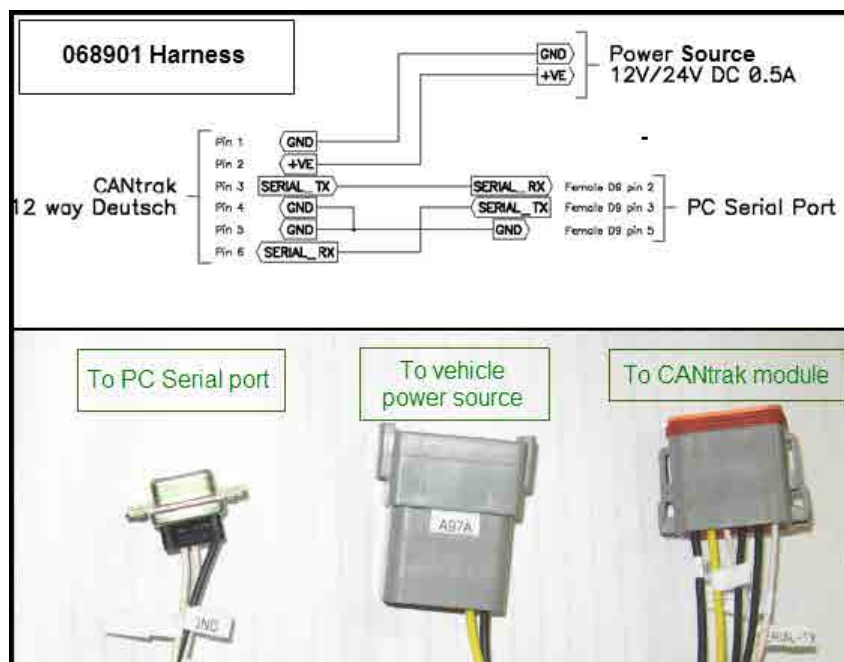

Fig.6 Harness 068901 connectors.
- Connect the 068901 wiring harness (Fig.6) to the laptop and vehicle harness (Ignition must be at the **OFF** position).